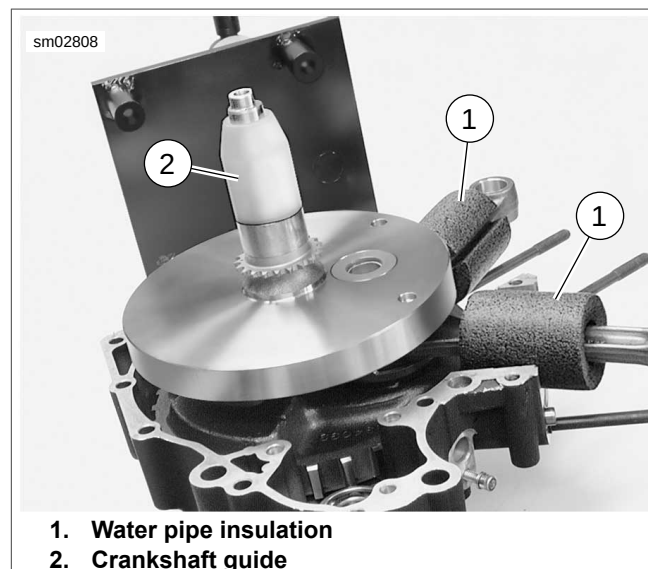

Figure 3-168. Crankshaft Guide (Part No. HD-42326-B)
6. See Figure 3-168. Place CRANKSHAFT GUIDE (Part No. HD-42326-B) (2) over end of crankshaft until it contacts shoulder on shaft.